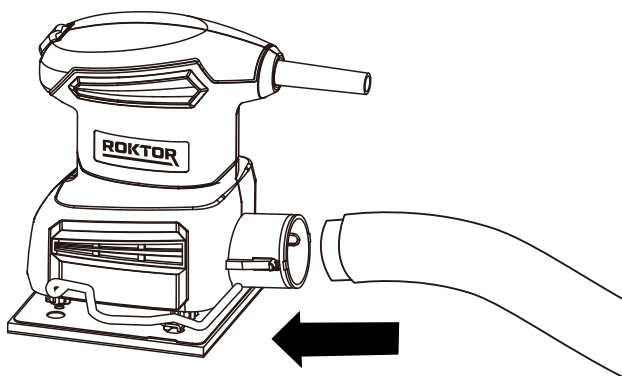

Figure 4
3. USING THE DUST OUTLET (SEE FIG. 4)